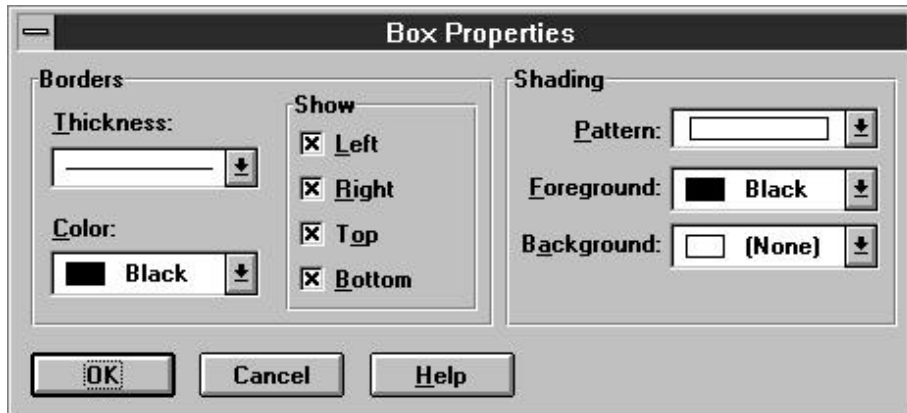

Figure 13.2 Box Properties Dialog Box
1. Open the Box Properties dialog (see Figure 13.2). The current Thickness and Color settings are displayed in the Borders group box.